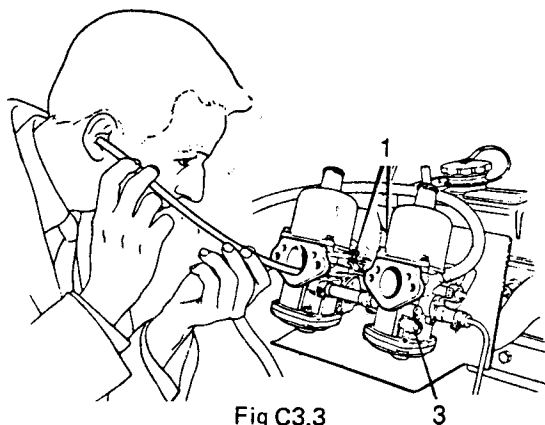

Fig C3.3
(1) Refer to Fig C3.3. Slacken both clamping bolts on the throttle spindle interconnections.
(2) Slacken both clamping bolts (1) on the cold start interconnections.